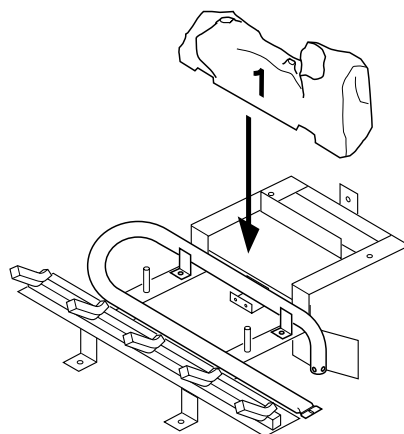

Figure 48 - Installing Log No. 1
1. Place log #1 (back log) on top of grate. Make sure the notches in the bottom of the log fit over the grate (see Figure 48).